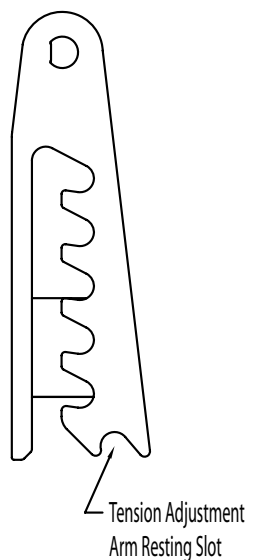

Figure 1
1. Standing at the exit end of the Cable Feeder, push down and turn the tension adjustment handle to release the tension adjustment arms from the ratchet studs. Lift up on the handle and place the tension adjustment arms with the resting slots (see Figure 1 below) on top of the ratchet studs.